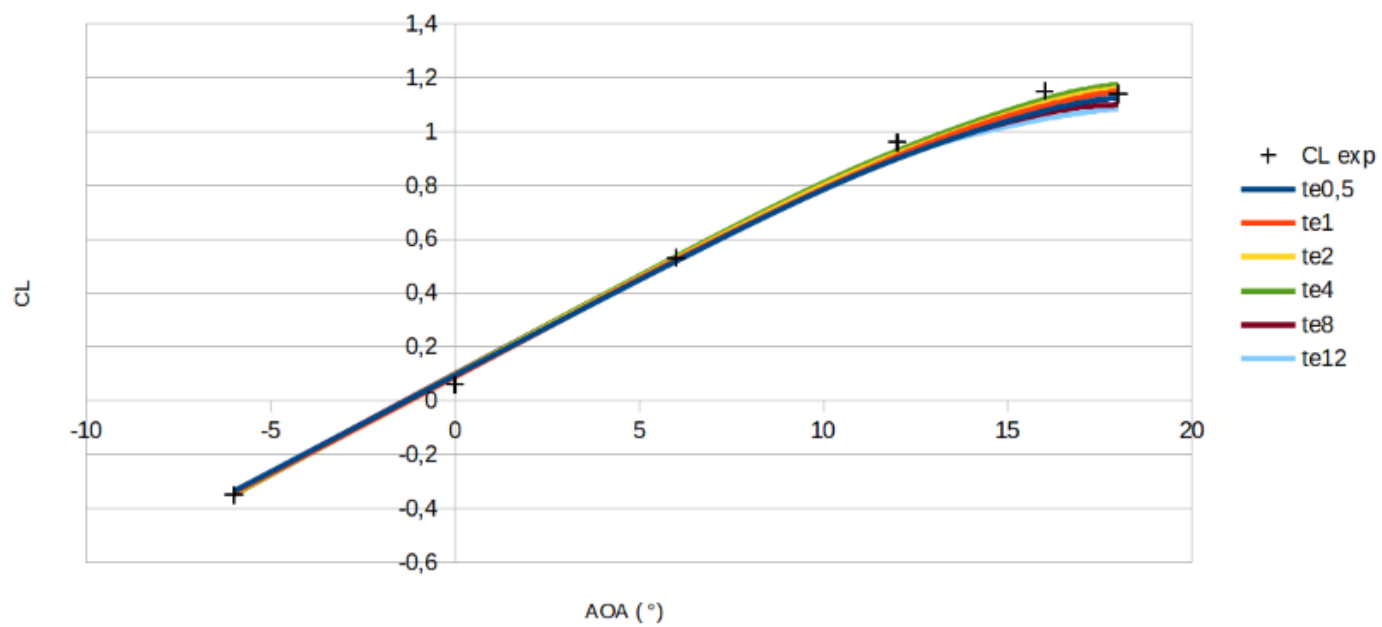

Figure 69: CL w.r.t AoA.
**Captions for figures 69 and 70 :**